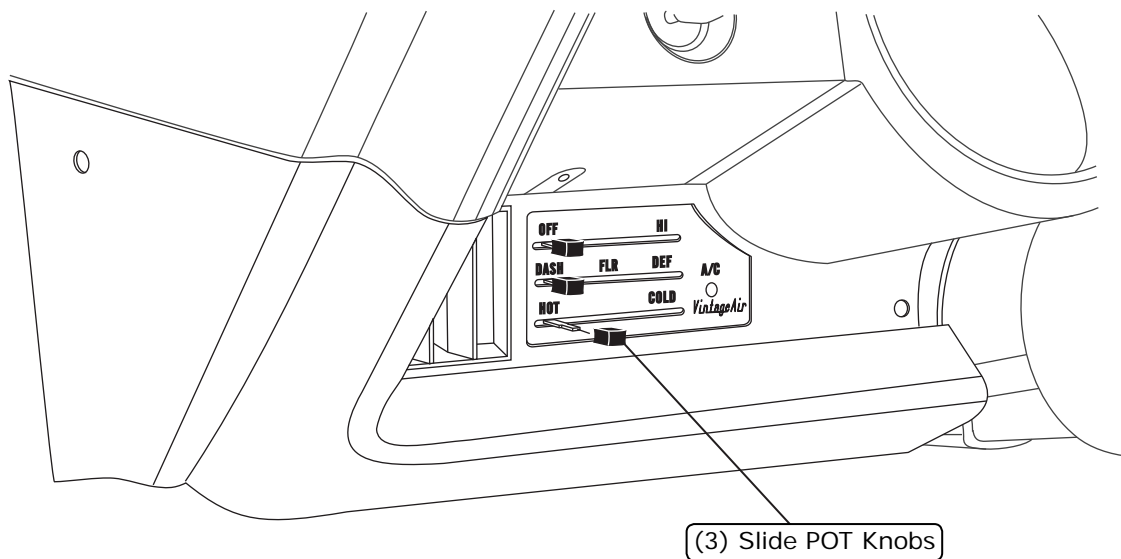

Figure 3
1. Install the (3) knobs as shown in Figure 3, below.